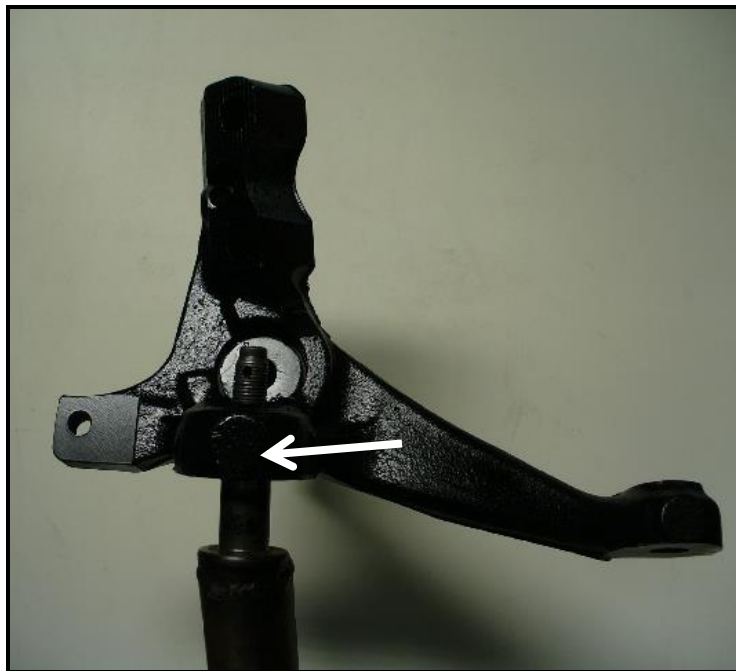

Figure 3: Strike at indicated location to dislodge ball joint
4. Strike the spindle at the ball joint boss to dislodge the ball joint. When the lower is loose, support the lower arm with a floor jack and remove the bolts retaining the strut to the spindle. Lift the spindle off of the lower ball joint and set aside. See Figure 3 for reference.